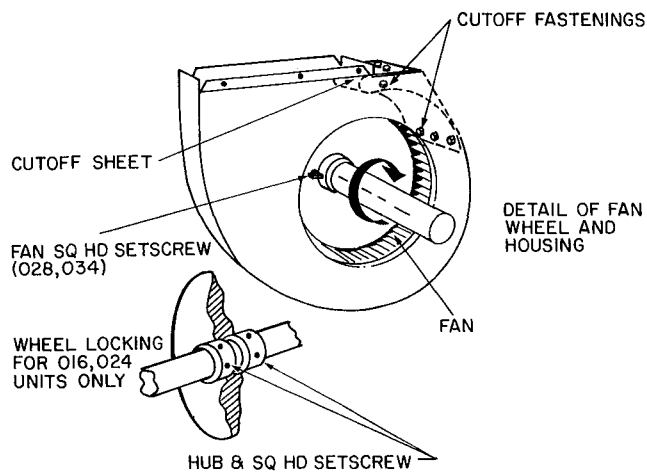

Fig. 8 – Fan Locking Detail
1. Loosen setscrews holding wheel support to shaft (Fig. 8).
1. Loosen fan wheel sq hd setscrews on each side of fan support (Fig. 8).